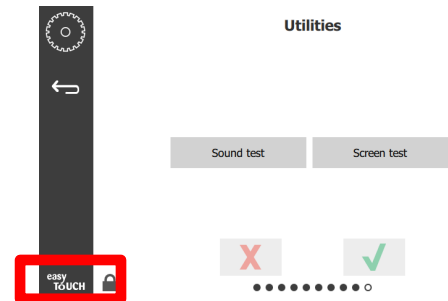

Figure 33
43. Press and hold the easyTouch logo in the lower right corner for 10 seconds. The controller displays Reset Configuration. Press the GREEN checkmark button. (see Figure 33).